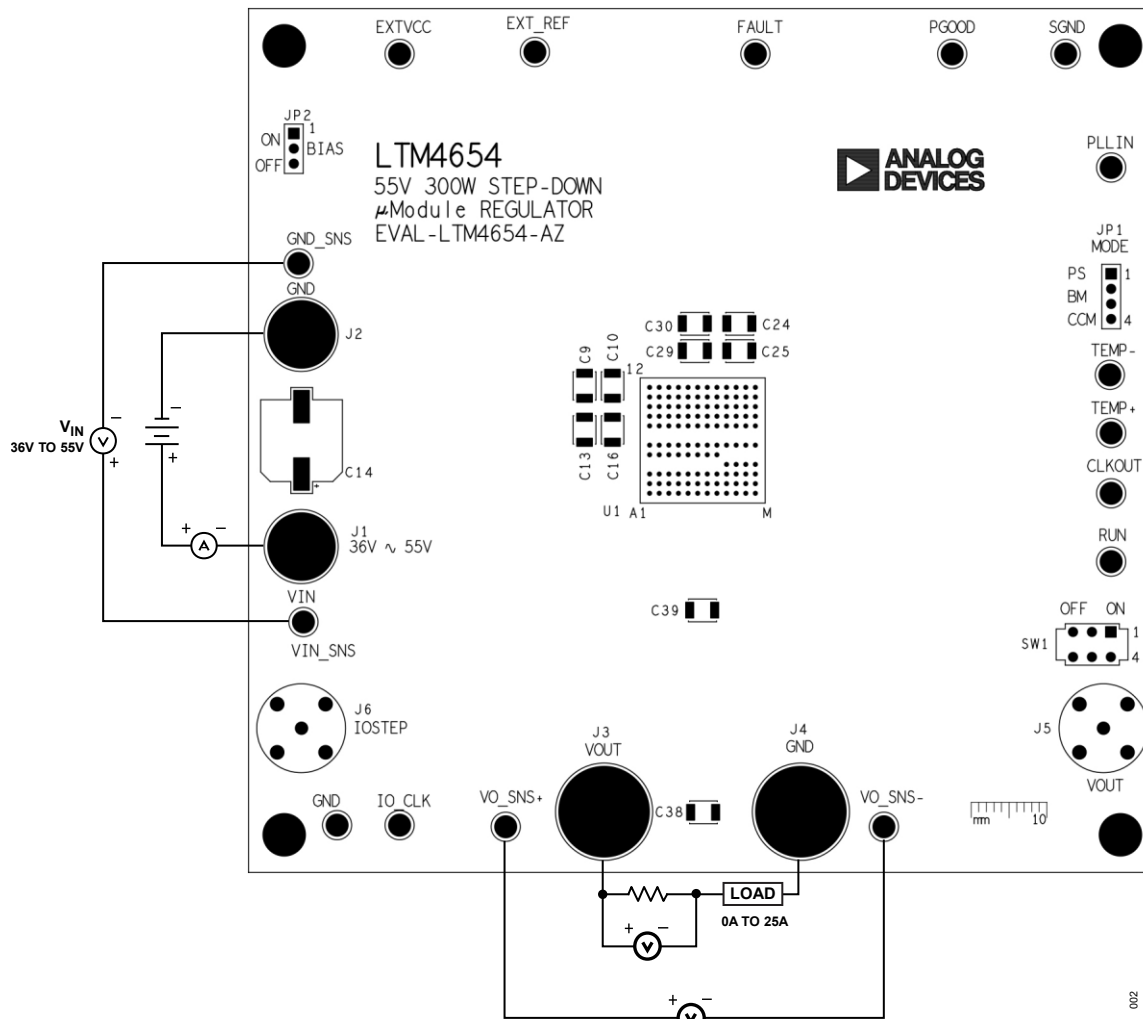

Figure 2. Proper Measurement Equipment Setup
The EVAL-LTM4654-AZ evaluation board is easy to set up to evaluate the performance of the LTM4654. See Figure 2 for proper measurement equipment setup and use the following procedure.
2. Connect the output load between VOUT and GND (initial load: no load). See Figure 2 for more details.